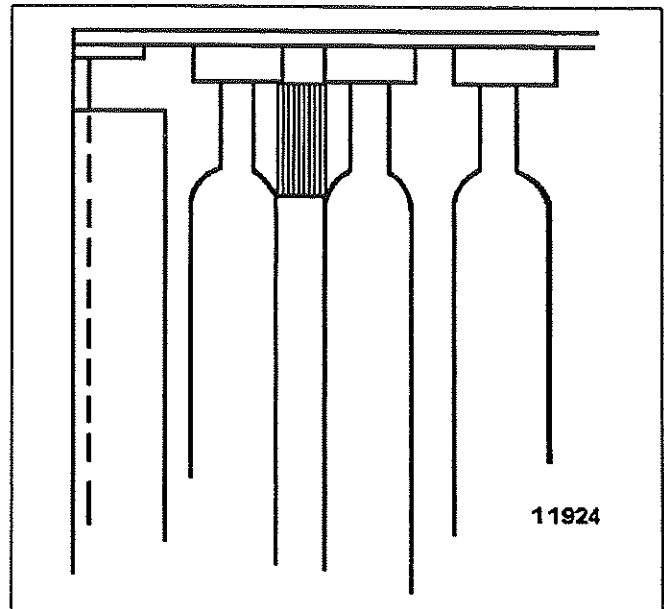

FIGURE 7 - INSTALLATION OF FELT BAFFLES
8. Install the top and bottom felt baffles between the first and second rows of the tubes as shown in Figure 7.